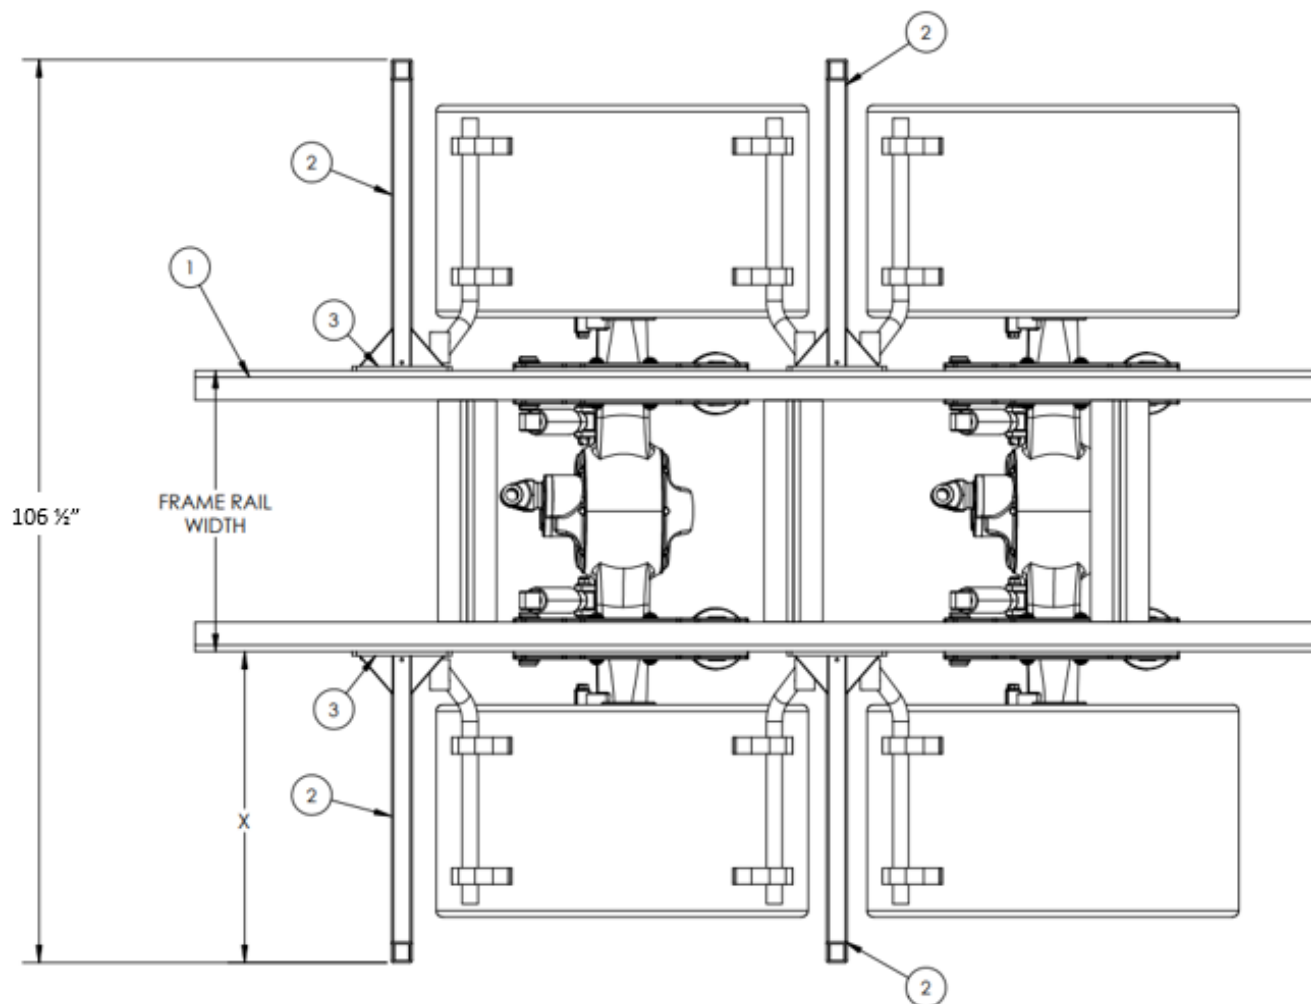

Figure 2.1: System Width Dimensions
Start by taking the frame rail (1) outside width measurement. Take 106.5" and subtract the measurement from it. Take the remainder of that and divide by 2. This will give you the "X": the distance needed to offset the pivots from the frame rails. (Ex. 34.5" frame rail width; $106.5" - 34.5" = 72"$; $72"/2 = 36"$). In the example, 36" is the necessary offset distance, "X". See *Figure 2.1* on previous page for dimensioning callouts.